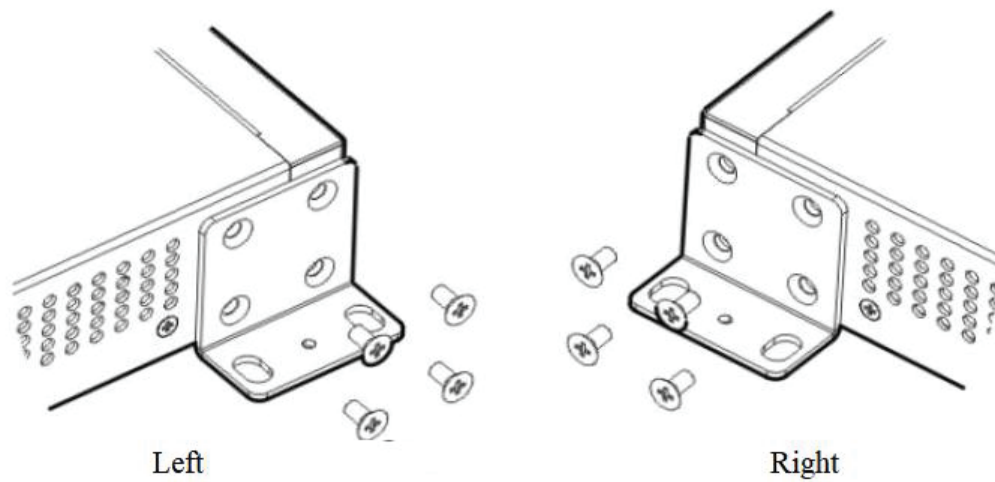

Figure 2
Step 1: As shown in Figure 2, find the mounting ears and screws (M3*5mm) from the accessories of the switch, then put the switch upright and fix the mounting ears on